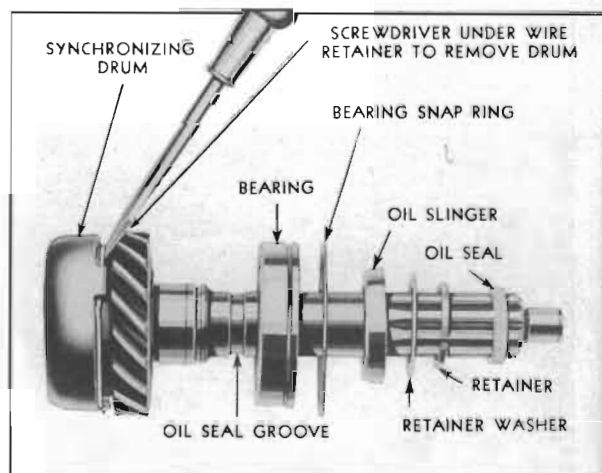

Figure 4-31—Disassembly of Main Drive Gear
11. Disassemble main drive gear if any parts are to be replaced. Remove synchronizing drum by prying retainer over shoulder on gear, leaving retainer in drum. Remove oil seal, retainer (snap ring), washer, and oil slinger from drive gear, then remove bearing by jarring shaft on block of wood or lead. See figure 4-31. Remove main shaft pilot roller bearing by removing retainer (snap ring) and retainer washer.